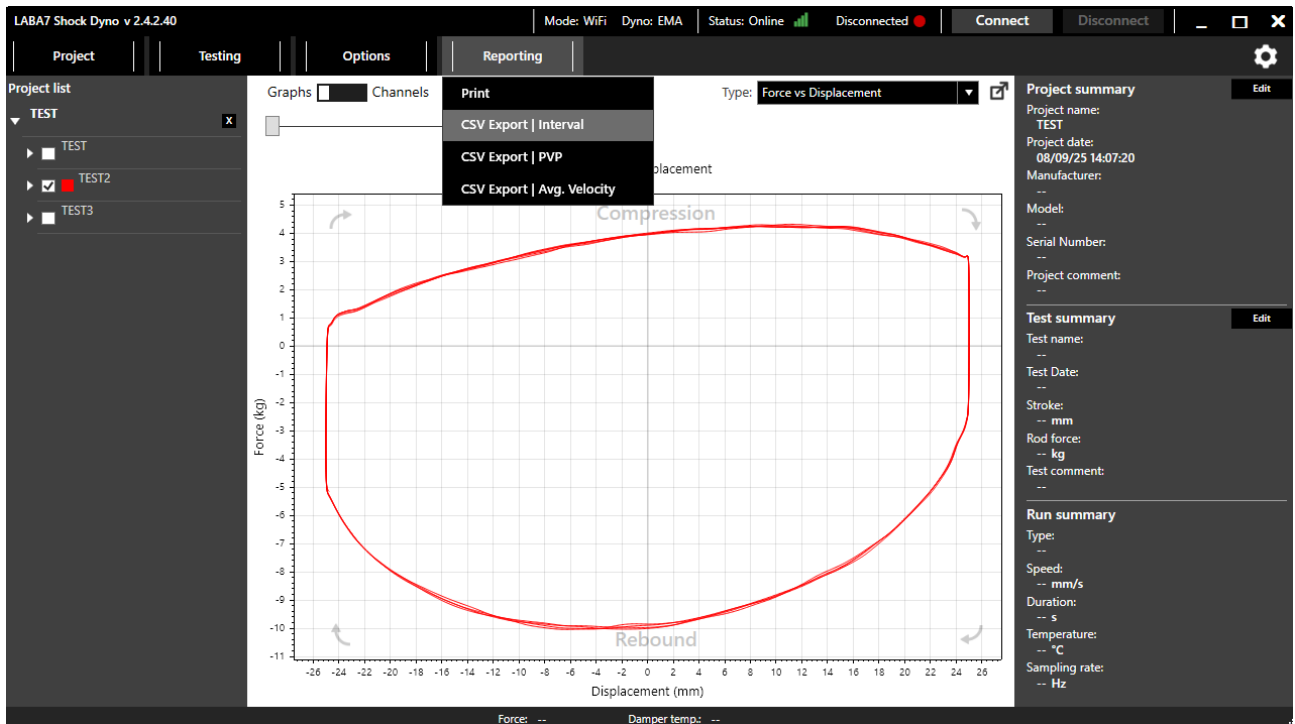

Figure 65
2. Press reporting (Figure 65).
2. Press “reporting” (Figure 65).